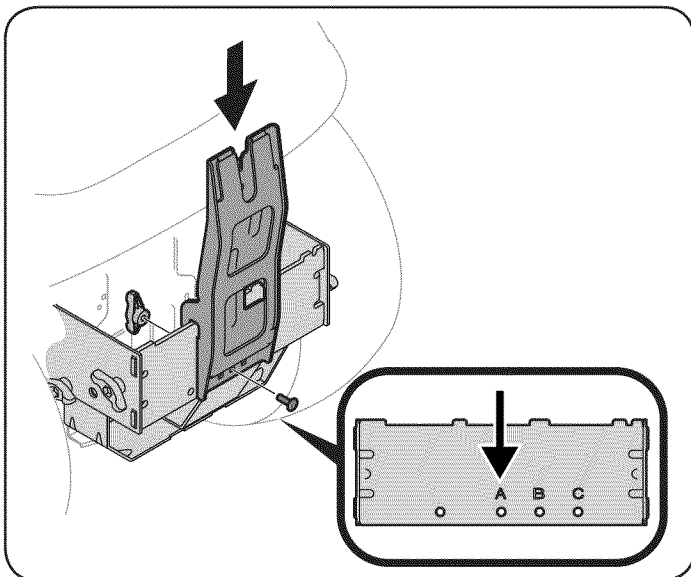

Figure 5
4. Install the bagger upright mounting bracket onto the mounting assembly of the tractor by hooking it over the hitch plate, aligning the center hole on the upright bracket with the hole on the cross mount bracket which corresponds with the deck size of your tractor. See Figure 5.
5. Secure the upright mounting bracket to the mounting assembly using a (710-0276) carriage bolt and a (720-04122) wing knob from hardware pack 689-00328A. Refer to Figure 5.